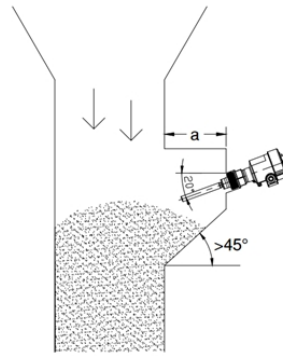

Fig.5
- In the situation where the medium is with higher density and bigger granular size, and the medium fills in vertically, the probe will be impacted by the filling materials. The Tube-11 should be mounted in the recess portion of the container (as in Fig.5) to protect the probe from impact or bending by the filling materials. "a" in Fig.5 should be longer than the probe intrusion length.